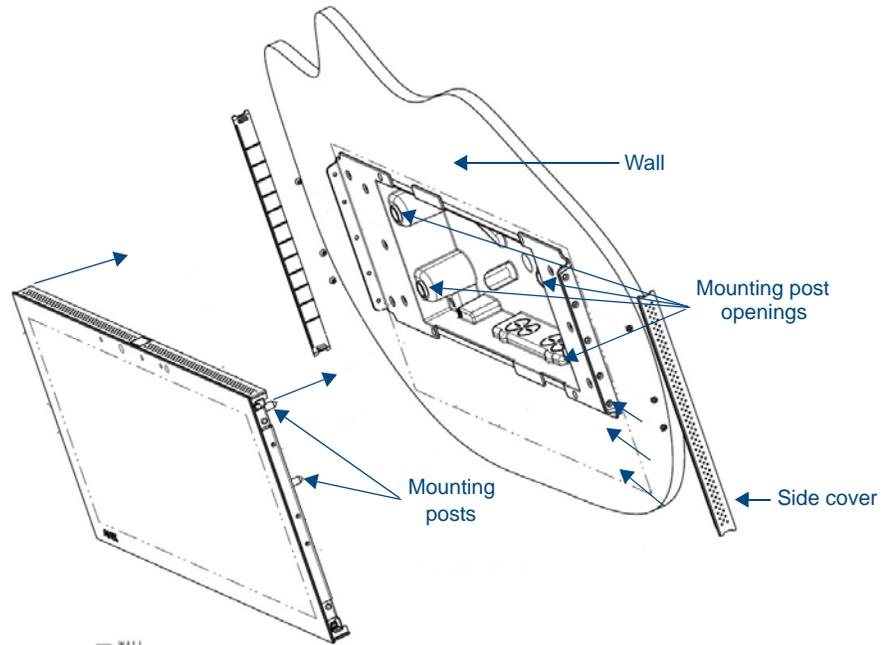
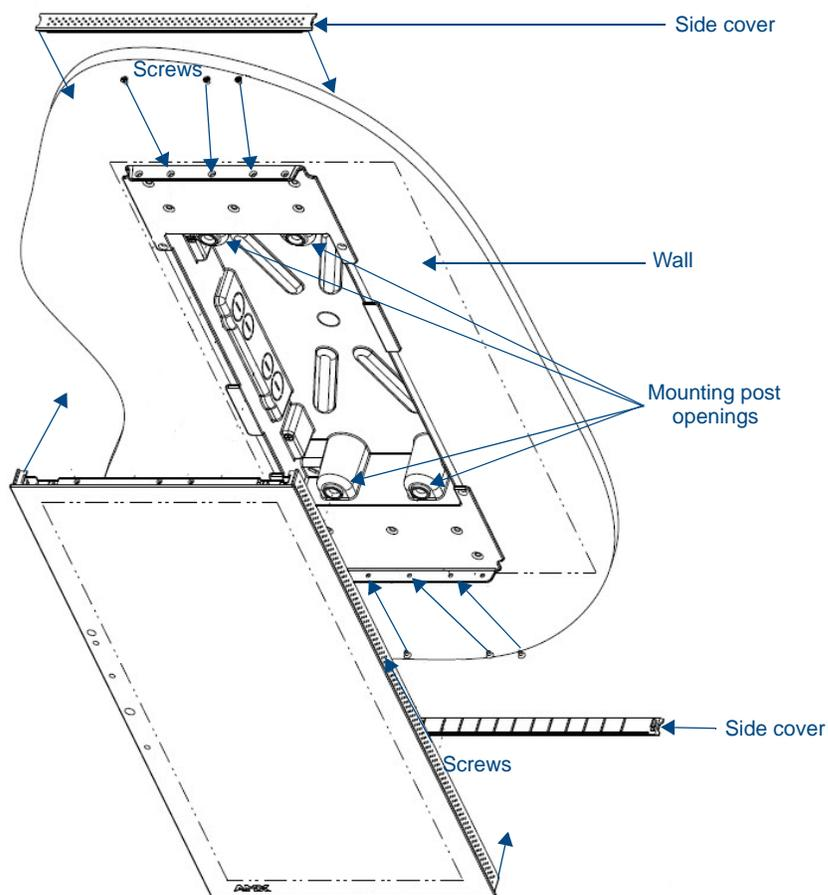
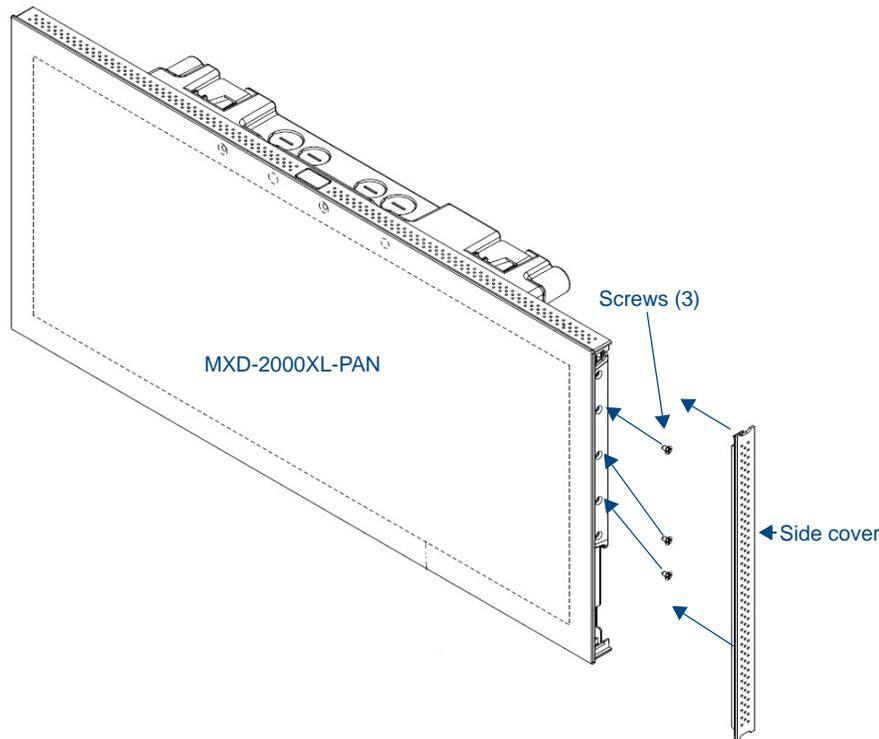

FIG. 21 MXD-2000XL-PAN installation (Landscape)
FIG. 22 MXD-2000XL-PAN installation (Portrait)
FIG. 23 MXD-2000XL-PAN side cover installation (Landscape)
11. Insert the four temporary mounting posts of the panel (FIG. 21 and FIG. 22) into the openings on the back box and slide the panel onto the back box. This will temporarily hold the panel during the rest of the installation.
- Use the six provided screws, three at each end, to secure the touch panel to the back box (FIG. 22 and FIG. 23). Use only the provided screws, as other screws may damage the touch panel.
- Snap the decorative side covers (FIG. 23) onto each end of the touch panel.